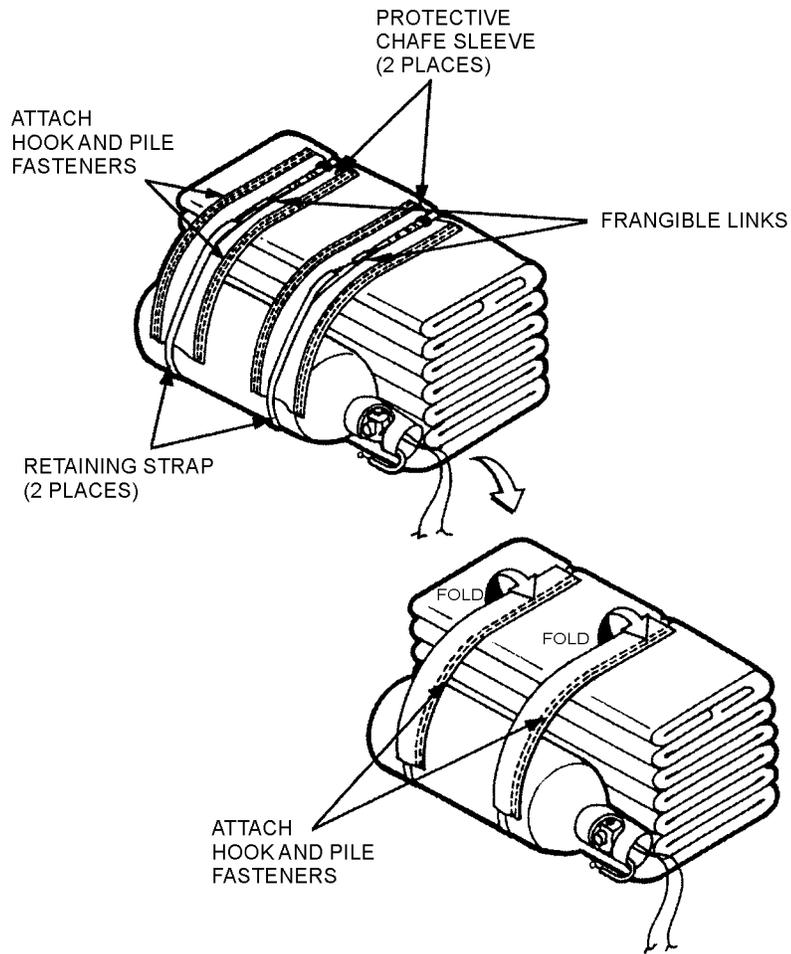

Figure 14-3. Liferaft Retaining Straps
9. Locate the two liferaft retaining straps that encircle the raft (figure 14-3). The straps have urethane coated nylon covers secured with hook and pile fasteners, open the covers and inspect the frangible links. Close the covers by securing the hook and pile fasteners. If the frangible links are damaged or broken, submit a QDR in accordance with the OPNAVINST 4790.2 Series.
8. Locate the two liferaft retaining straps that encircle the raft (figure 14-3). The straps have urethane-coated nylon covers secured with hook and pile fasteners. Open the covers and inspect the frangible links. Close the covers by securing the hook and pile fasteners. If the frangible links are damaged or broken, submit an NAMDRP report in accordance with the OPNAVINST 4790.2 Series.